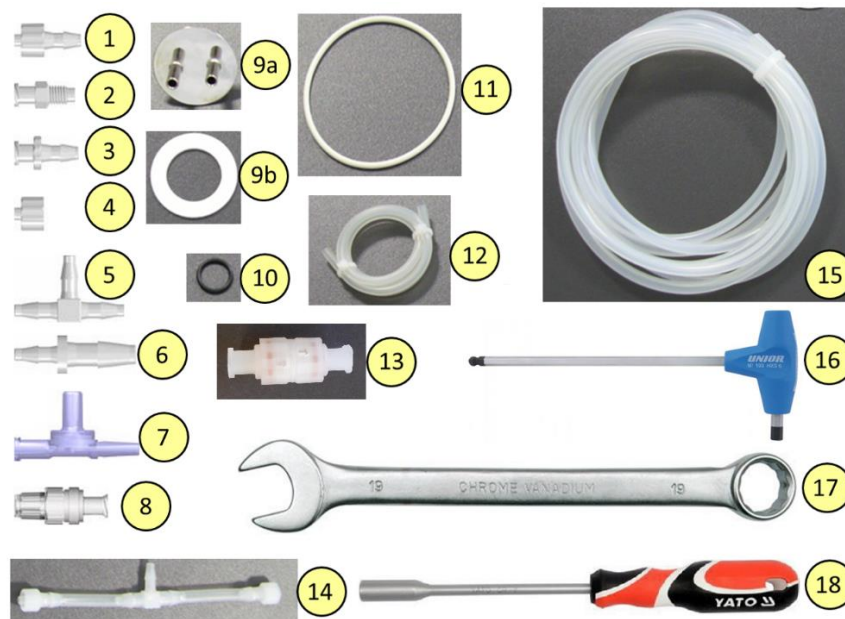

Fig. 5 Components of the Spare part kit. Numbers correspond to the component number in Tab. 4.
5. **Spare Part Kit*** – for the complete list of Spare Part Kit see Tab. 4 on page 15 and corresponding Fig. 5.
Tab. 4 List of Spare part kit – components shown in Fig. 5. * Provided by: www.valueplastics.com